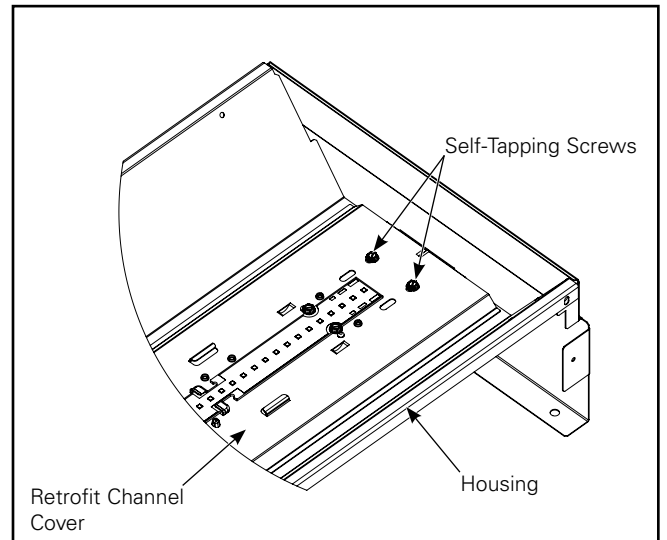

**Figure 20.**
1. In 6 ft and 8 ft assemble tandem bracket to Primary channel cover (Factory installed) with two self-tapping screws as shown in (Figure 20). Install tether cable to Housing and Channel cover see step 5 in page 3.